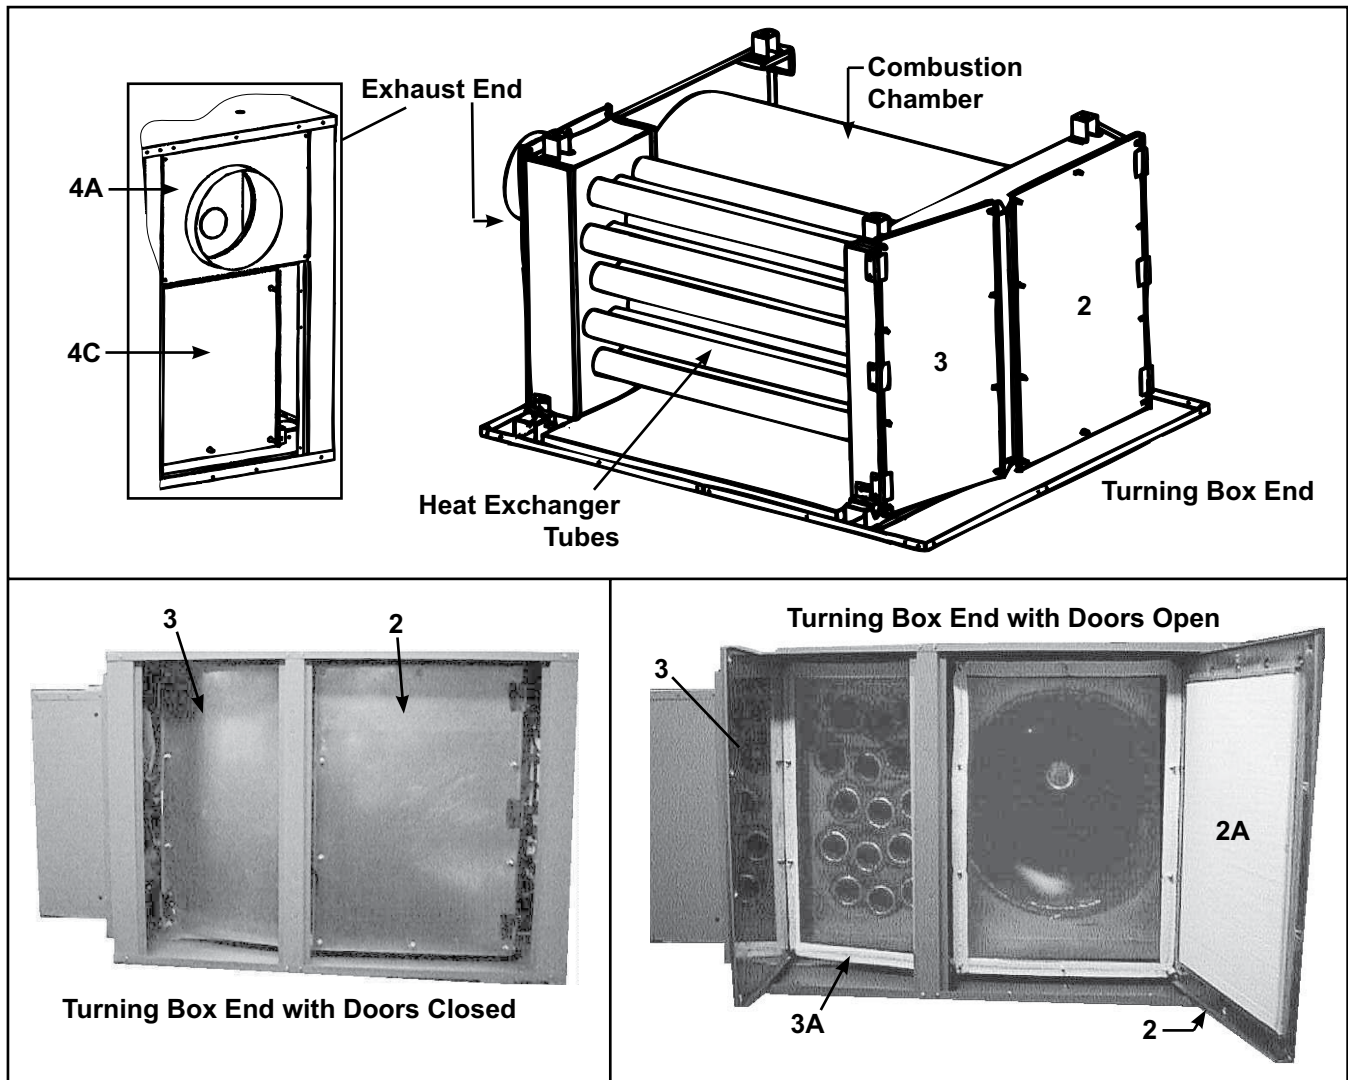

Figure 28. Heat Exchanger/Combustion Chamber and Exhaust Box Assemblies—RA and RAD Models, Unit Size 500 (Refer to Table 20)
- Heat exchanger/combustion chamber assembly and exhaust box components for RA and RAD models—unit size 500—are shown in Figure 28 and listed in Table 20.